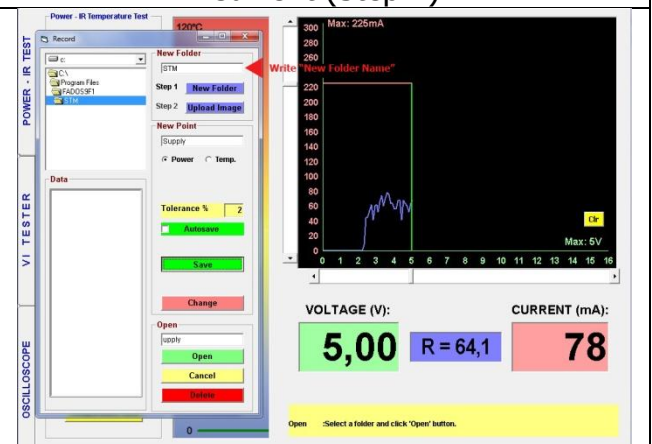

Figure 21: Recording the DC VI Graph (Step 4)
4. The "DC Voltage - Current Graph" is stored (recorded) by clicking on the "Recording" Button. (Figure 21)